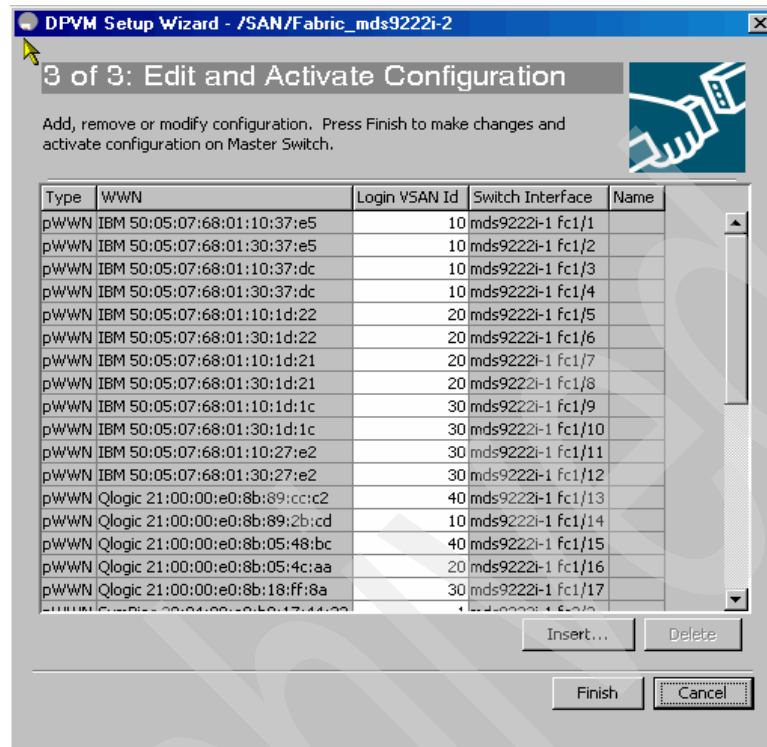

Figure 6-45 Edit and activate configuration
4. As shown in Figure 6-45, click **Finish** to activate the configuration.